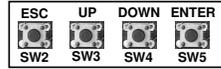

**Figure 9: EAMP020 Electronic Controller, Front View**
3. Remove the appropriate conduit plugs on the top of the Electronic Controller for connection of the field wires to the circuit board terminal blocks (see Figure 9).
See PROBE CONNECTION Fig. 9
See Figure 9 for supply power and output connections.
2. Move the Electronic Controller's power switch (see Figure 9) to the ON position.
3. Use the LCD Contrast Adjustment screw (see Figure 9) to adjust the LCD contrast as desired:
Use UP and DOWN (see Figure 9) to scroll through each sensor's velocity and temperature reading. Press ESC on the Electronic Controller to display the average velocity and temperature values.
To scroll through each of the menu options, press UP and DOWN on the Electronic Controller (see Figure 9):